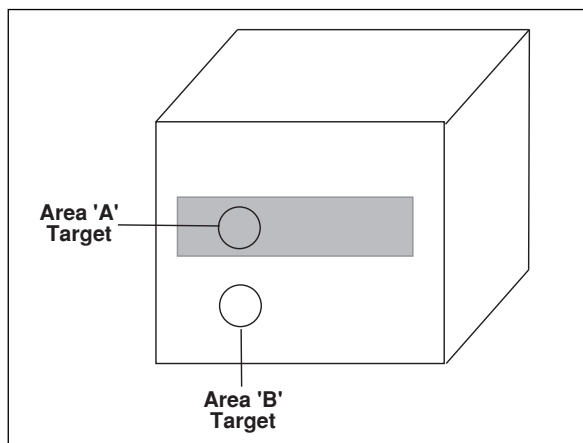

Figure C-1. Determining Emissivity
3. Set the emissivity of the thermometer to 0.95. Use the thermometer to measure and record the temperature of the masking tape - Area A in Figure C-1. Make sure that the area of the object covered with masking tape fills the FOV of the thermometer.
4. Aim the thermometer at Area B as shown in Figure C-1. Make sure that Area B is as close as possible to Area A.
2. Set the emissivity to 0.97 and measure and record the temperature of the painted portion of the sample material - Area A in Figure C-1. Make sure that the painted area of object material fills the FOV of the thermometer.
3. Aim the thermometer at another spot on the target - Area B in Figure C-1.